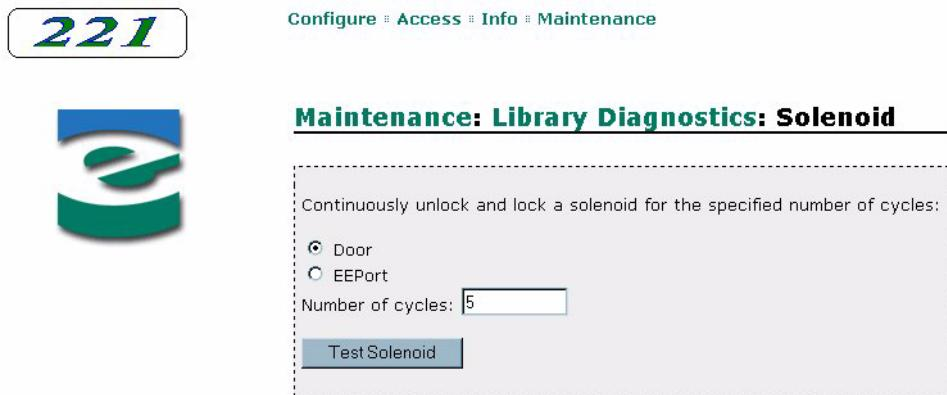

Figure 6-43 Remote management utility – Solenoid Diagnostics page
4. Click on Continuously cycle a solenoid. A page similar to Figure 6-43 appears.